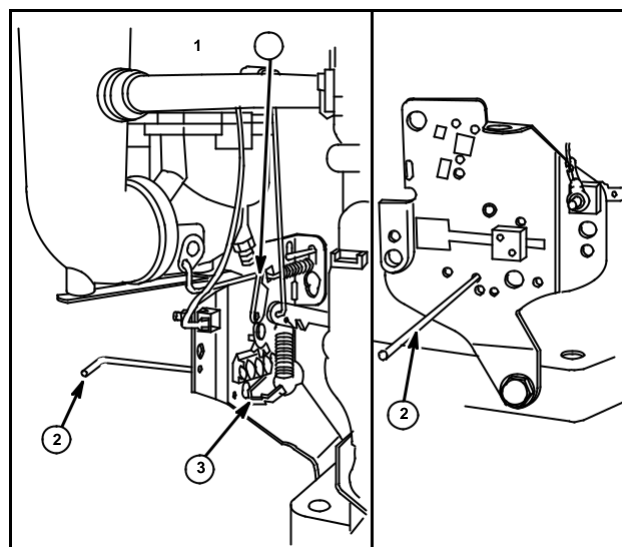

Fig. 28
2. Insert a 1/8" (3.18 mm) rod (2) through hole in control plate and governor tang (3), Fig. 28, on rack and pinion control plates. See note below for engines using Top Speed Limit Screws.